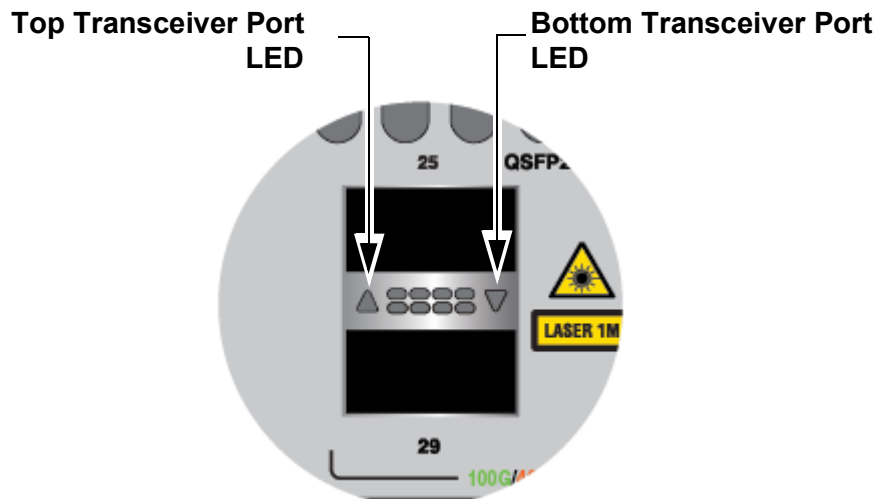

Figure 7. LEDs for Ports 25, 29, 33, and 37 on the x950-28XSQ and x950-28XTQm Switches
**LEDs** The ports for the QSFP28 and QSFP+ transceivers have one link and activity status LED each. Refer to Figure 7.